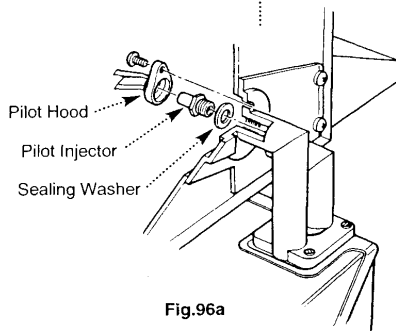

Fig. 96a
4. Release the screw securing the pilot hood and remove (Fig. 96a).
5. Carefully remove the pilot injector (Fig. 96a). Examine and clean it as necessary. Do not use a wire or pin to clean the injector orifice.
6. Examine the sealing washer (Fig. 96a) and replace if it is damaged in any way. Reassemble in reverse order.